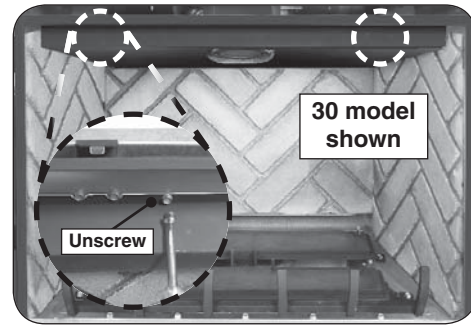

Fig. 54-1 Remove lintel
1. Remove the lintel found at the top front of the unit. For 30 and 36 models, use a $\frac{5}{16}$ " nut driver to remove the two hex screws found on each side of the lintel. For 25 models, use a Phillips screw driver. See Fig. 54-1.